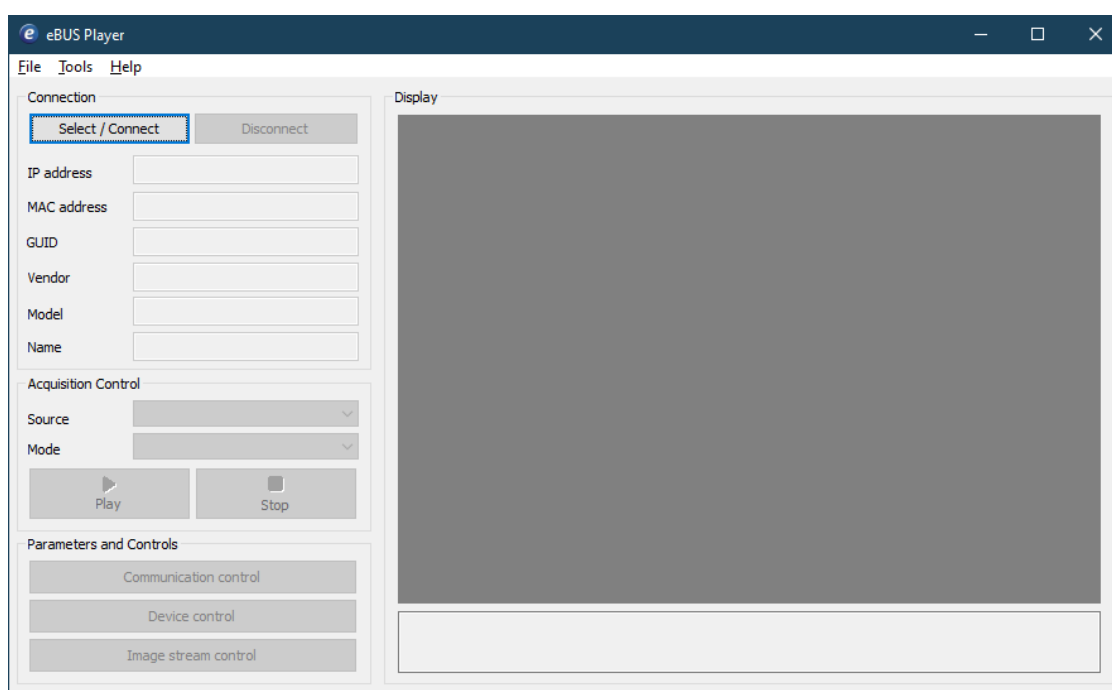

Figure 116: eBUS Player Before Device Connection
2. The **eBUS Player** opens an empty viewer with disabled controls (Figure 116).